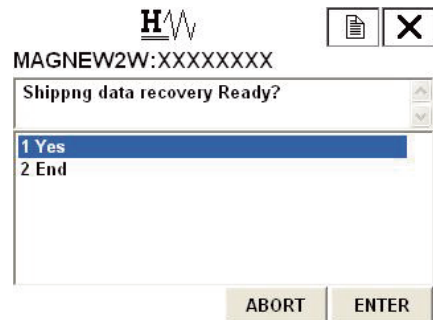

Fig. 7-93.
- Fig. 7-93. will then be displayed.
2. When executing shipping data recovery, select "YES" and press F4 (ENTER). Shipping data recovery will execute, and the display will return to Fig. 7-93. Press F3(ABORT) to return to the previous menu.